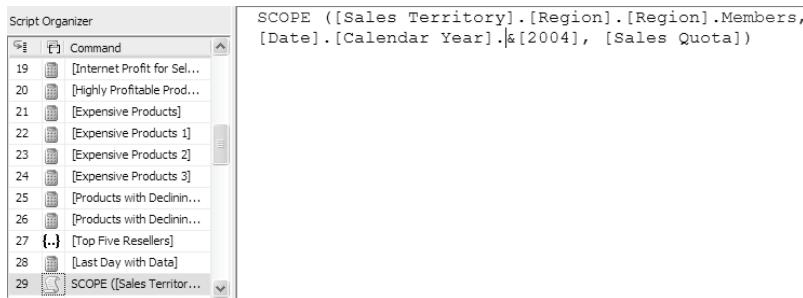

Figure 10.17 In the Form View mode, you create subcube expressions by adding script commands.
- Finally, add two more commands to close the two scopes with matching END SCOPE statements. Figure 10.17 shows the final result in the Form View mode. The entire subcube expression spans five commands (lines 28-32)